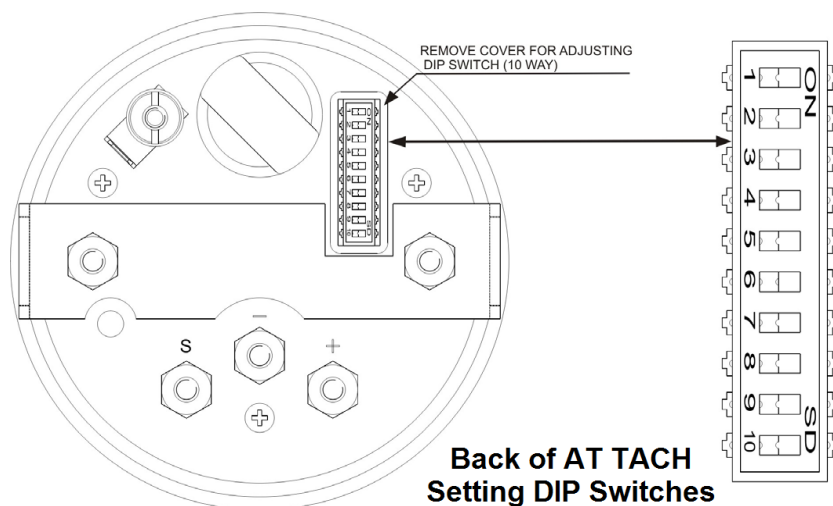

FIGURE 3
These models have been designed to function with flywheels having 50 to 304 teeth. Any number in this range can be set using the dip switches provided on the back (see Figure 3 - following). For more details, also refer to Table 1 (In the section: Dip Switch Setting Charts, Magnetic Sensor Driven Models).
If the number of teeth on the flywheel is known, set the calibration by using a pin to adjust the dip switches (see Figure 3, following).
5. If the Pulses per engine revolution is determined, then set the calibration “through selector/dip switches” (See Fig. 3 in the section: Calibration Instructions, Magnetic Sensor Driven Models).